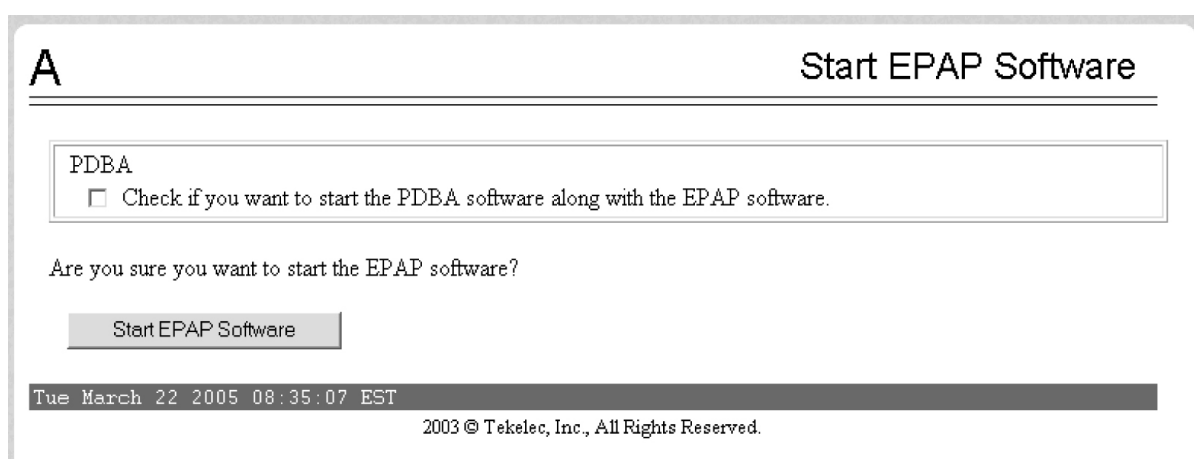

Figure 11: Start EPAP Software
- 10. On the Start EPAP Software screen** shown in Figure 11: Start EPAP Software, click **Start EPAP Software**.